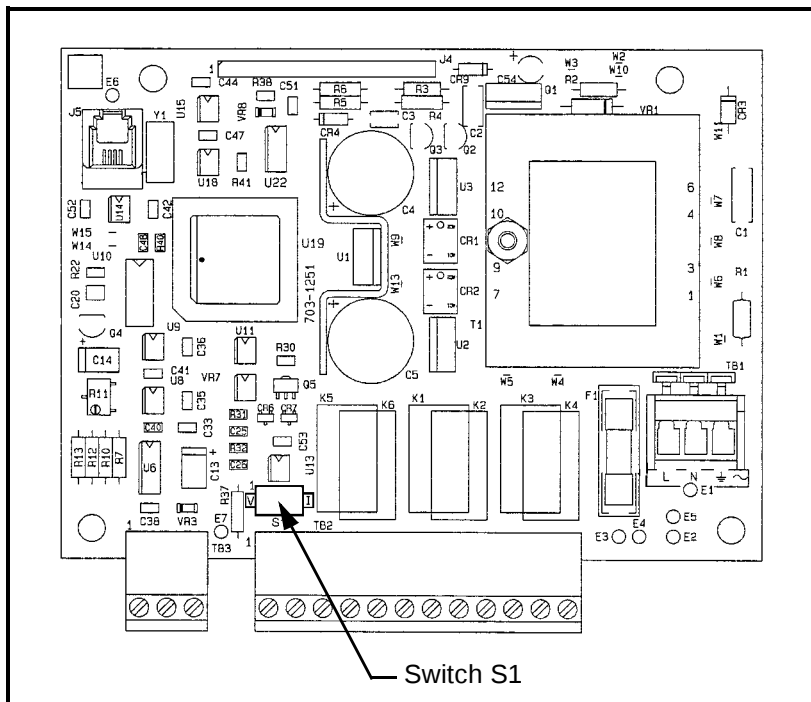

Figure 2-7: Switch S1 on the Main PC Board
4. Locate switch block S1, shown in Figure 2-7 on page 2-11.